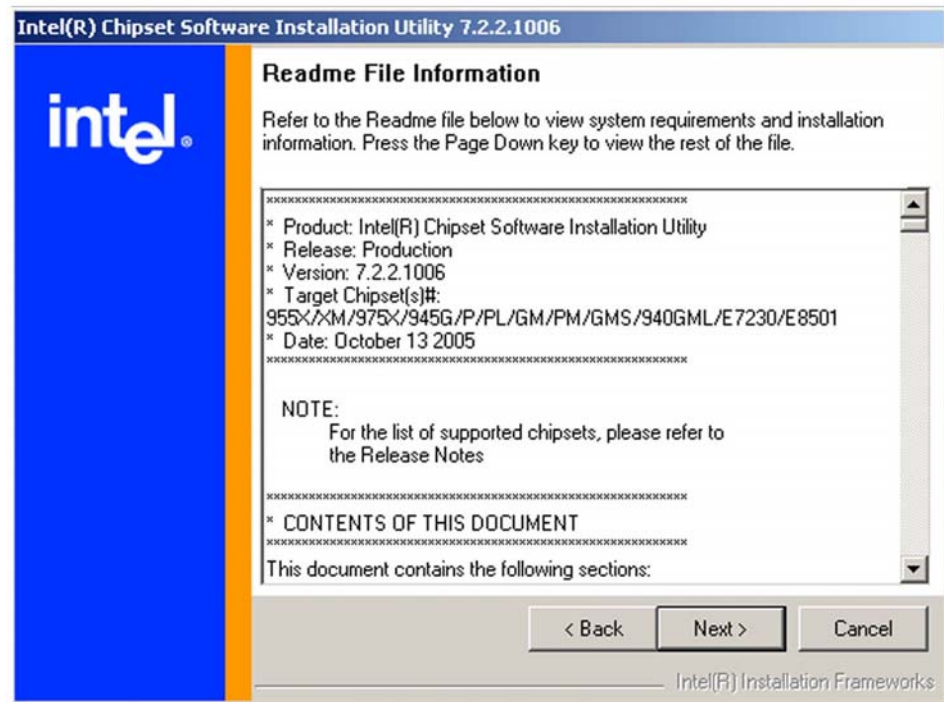

Figure 6-4: Chipset Driver Readme File Information
Step 5: Read through the license agreement in **Figure 6-3**. If you choose to accept the terms and conditions stipulated in the agreement then click the “**YES**” button. The Readme file information shown in **Figure 6-4** will appear.
- Step 6:** After reading through the Readme file information shown in **Figure 6-4** click on the “**NEXT**” button and the chipset driver will be installed.